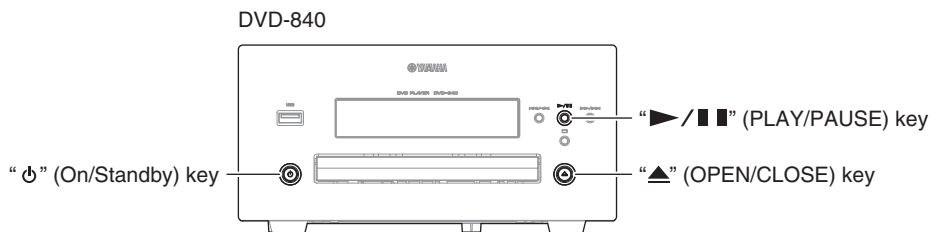

Fig. 3
1. Press the "⏻" (On/Standby) key of the DVD-840 to turn on the power. (Fig. 3)
2. Press the "⏮" (OPEN/CLOSE) key of DVD-840 to open the disc tray. (Fig. 3)
5. Press the "▶/■" (PLAY/PAUSE) key of the DVD-840, then writing of the firmware is started. (Fig. 3, 5)
8. Press the "⏻" (On/Standby) key of the DVD-840 to turn off the power. (Fig. 3)